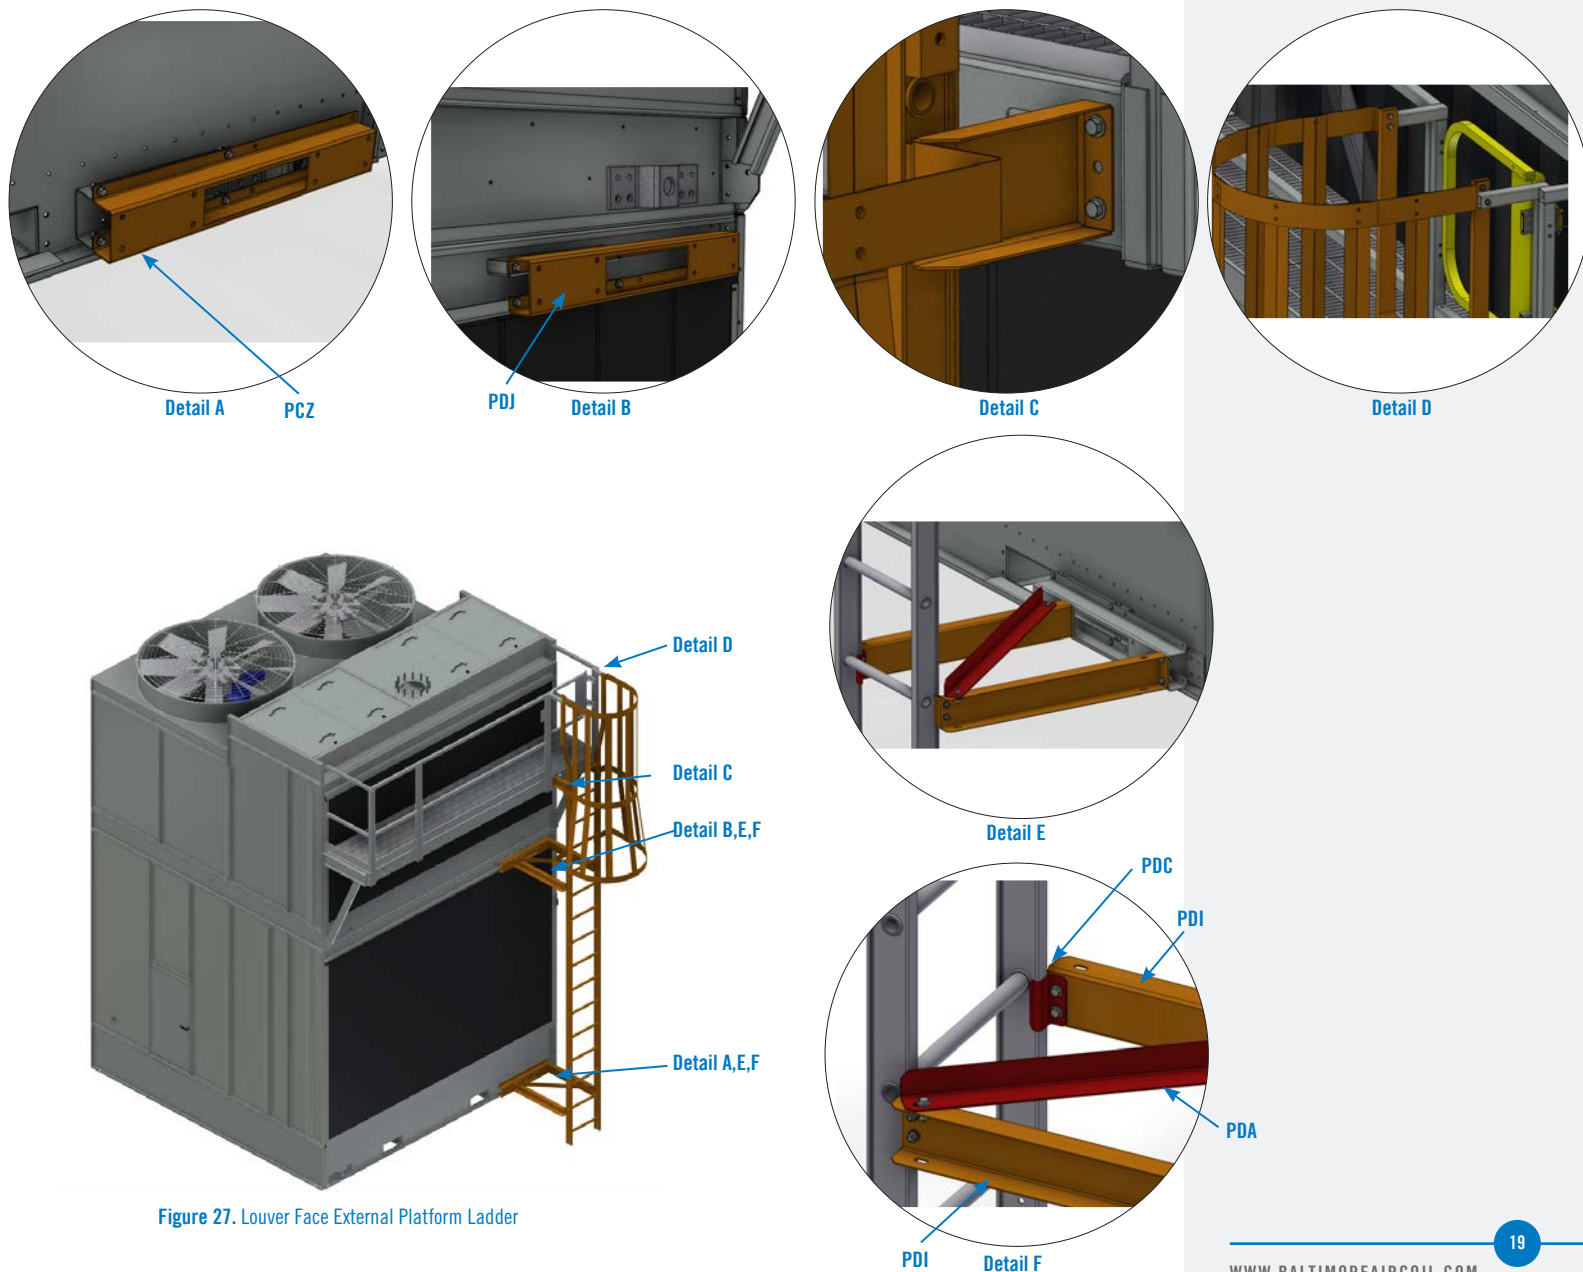

Figure 27. Louver Face External Platform Ladder
1. Secure the lower support channel to the pre-mounted bracket using 3/8" bolts provided. See **Figure 27, Detail A.**